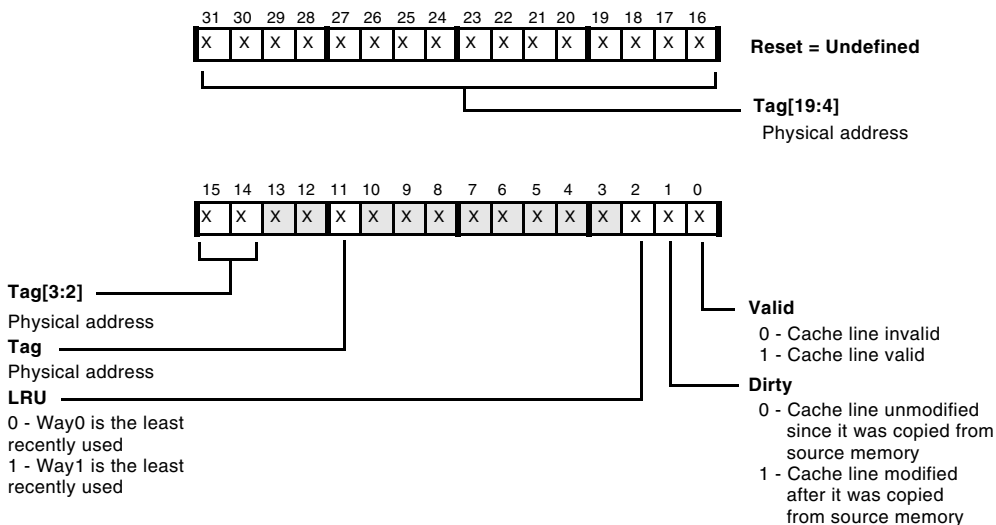

Figure 6-18. Data Test Data 0 Register
- Figure 6-18, “Data Test Data 0 Register,” on page 6-45